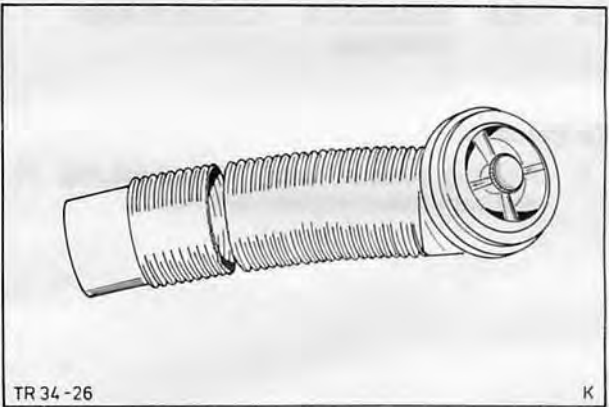

Fig. 29. Remove vent and hose assembly
2. Withdraw vent and hose from behind the fascia. Separate vent from hose, Fig. 29.